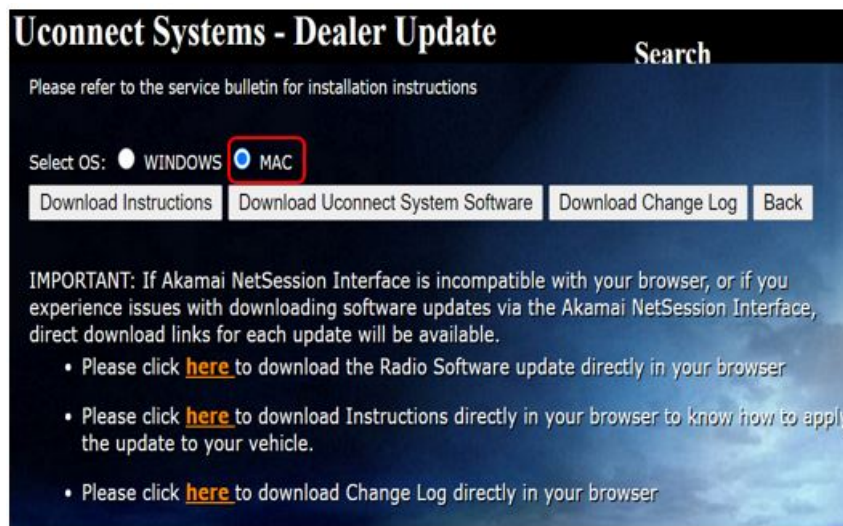

Fig. 3
6. Download the software update file to your local PC's desktop. Make sure to select the "MAC" radial button for all downloads (Fig. 3) .